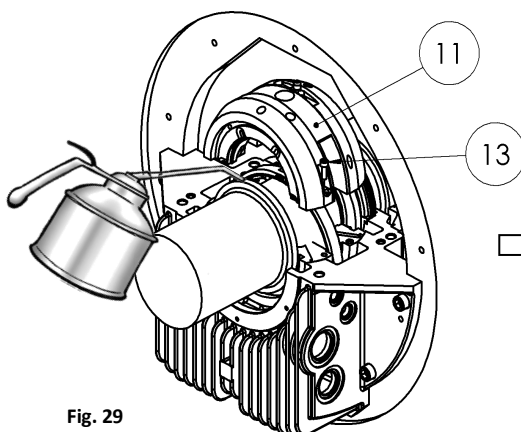

Fig. 29
- Apply an oil film to both the shaft seat and the upper part of the bearing shell (6) (use the same oil as for the operation of the bearing).
- Place the upper part of the shell (6) on the shaft (Fig. 29).
- Screw the bolts (8) to join the bearing shell halves with the suitable torques.